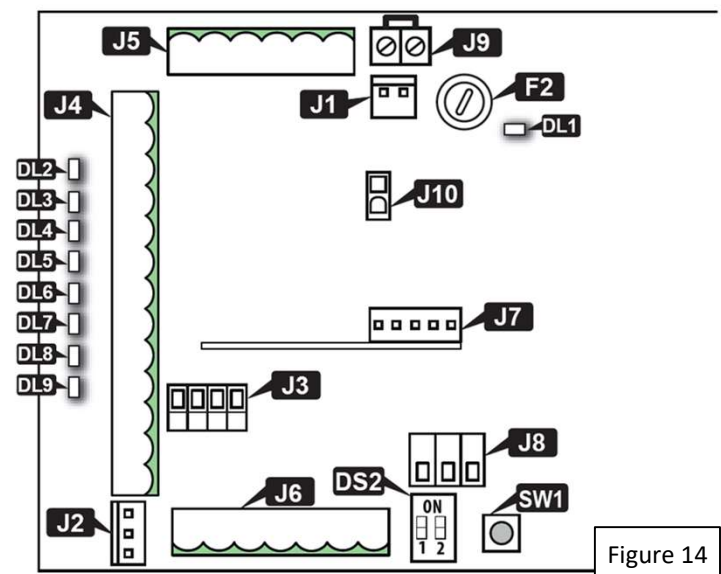

Figure 14
3. See Figure 14 below to locate fuse F2. Carefully replace the fuse.